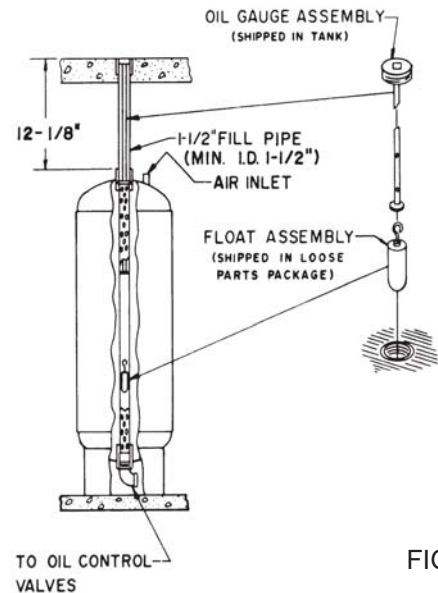

FIG. 3
- A. Remove the shipping strap from top of plunger and cylinder assembly by removing the two (2) 7/16"-14 x 1 1/2" long bolts and discard the shipping strap. Put the same (2) bolts back into the same holes to hold the wiper retaining ring. **IMPORTANT:** Six bolts are required to properly hold the wiper retaining ring.
- F. Remove Float Assembly from the loose parts kit and insert through tank fill opening with the hook end up. Check float to be certain it is free and floating. (Ref. Fig. 3.)